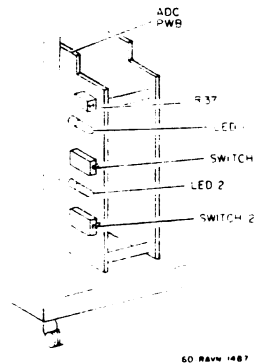

Figure 3. ADC Setup
- b. Actuate ADC PWB switch 1 once to enter ADC setup mode (LED 1 will be flashing, LED 2 will be full on or flashing) (Figure 3).